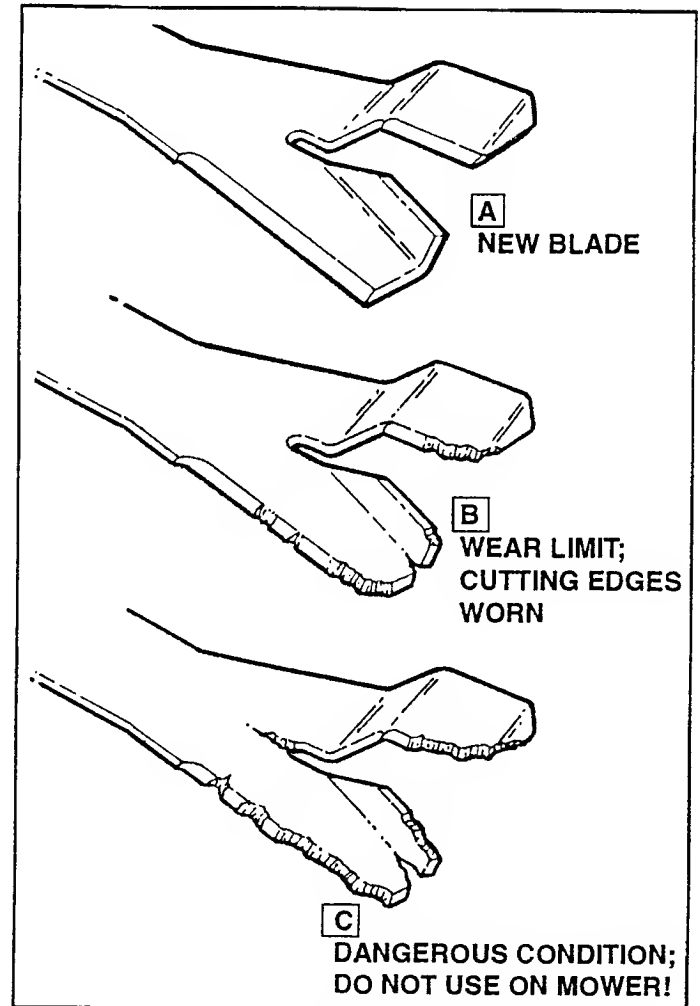

FIGURE 9.6
- B. Consult the Blade Drawings shown in Figure 9.6 to determine if a blade can be sharpened and safely reused, or if it must be replaced with a new part. Consult the SNAPPER "ACCESSORIES" Manual for Part No.
- C. If the blade is badly chipped, bent, out of balance, or as soon as a notch begins to wear in the tip between the flat blade and upturned blade, as depicted in Illustration "B" of Figure 9.6, then the blade **MUST** be replaced.
- B. Clean and inspect blades for excessive wear or damage. Refer to Figure 9.6.